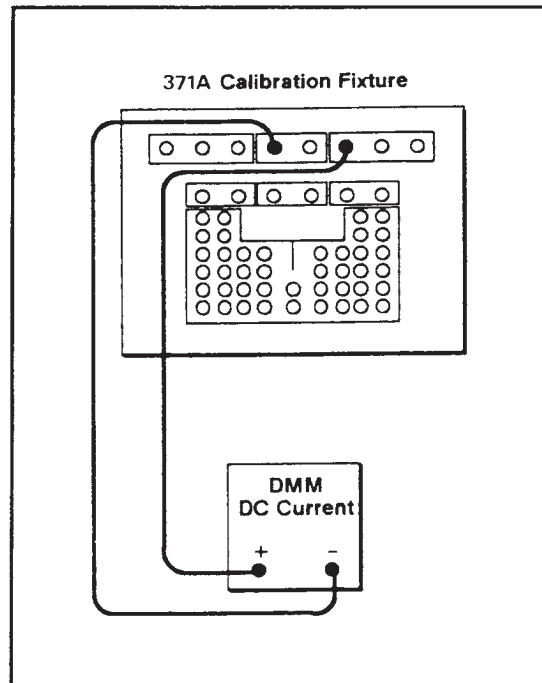

Figure 4-18 Setup for checking short circuit current limit of voltage source mode.
1. Connect the digital multimeter between the STEP GENERATOR VOLTAGE and the COMMON terminals as shown in Figure 4-18.